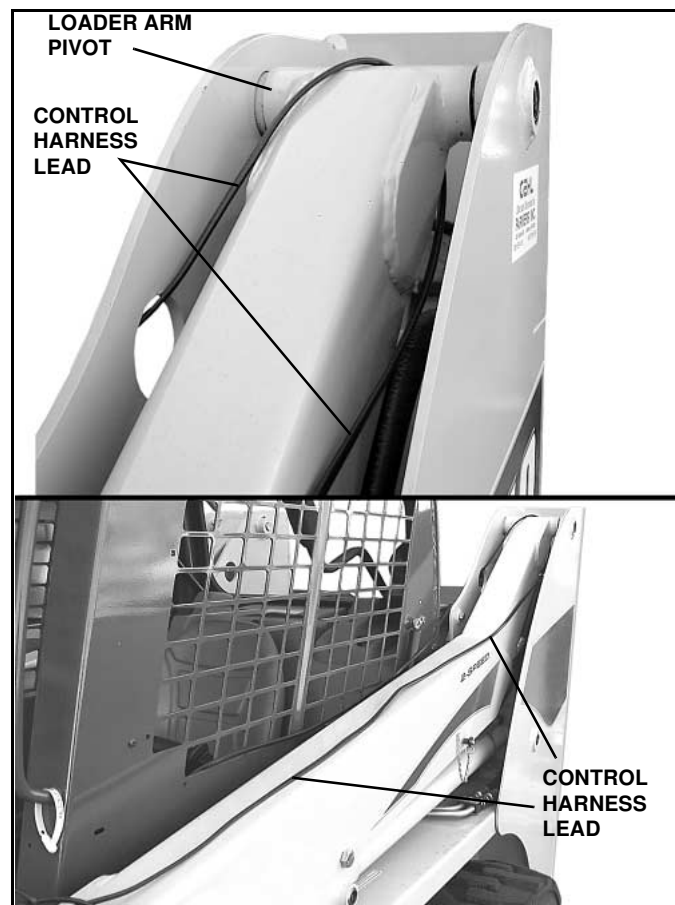

Figure 2-16
3. Route the control harness lead around the pivot point on the loader arms on the back of the Skid Steer and down the top of the loader arms to the front. Allow enough slack when routing wire so that wiring is not put in tension when the loader arms are moved. Position the wiring to prevent pinching when loader arms pivot, and secure with cable ties. (See Figure 2-16).